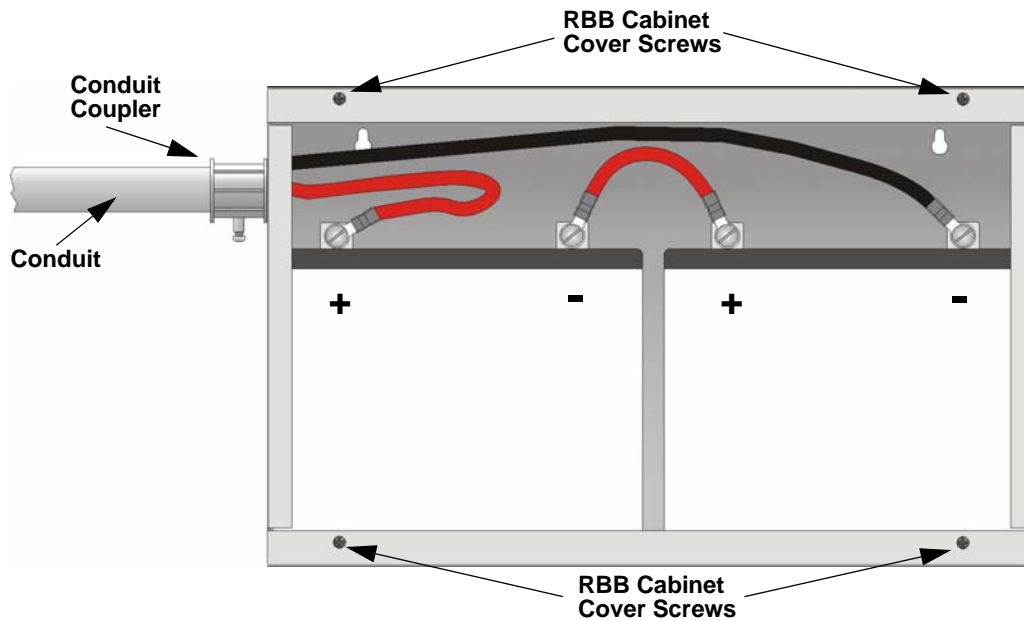

Figure 4-5 Battery Connections in the RBB Cabinet
3. Run extended battery cable from control panel cabinet through conduit to RBB cabinet. See Figure 4-5.
Note: Figure 4-5 is an example of how the wire connections can be routed. However, any other cabinet knock-outs (on either the main control panel or the RBB cabinet), that are not previously being used may be utilized to connect conduit between the two cabinets.
4. Connect battery leads to the backup battery terminals. See Figure 4-5.
5. Insert the RBB cover screws into the cover mounting holes. See Figure 4-5.